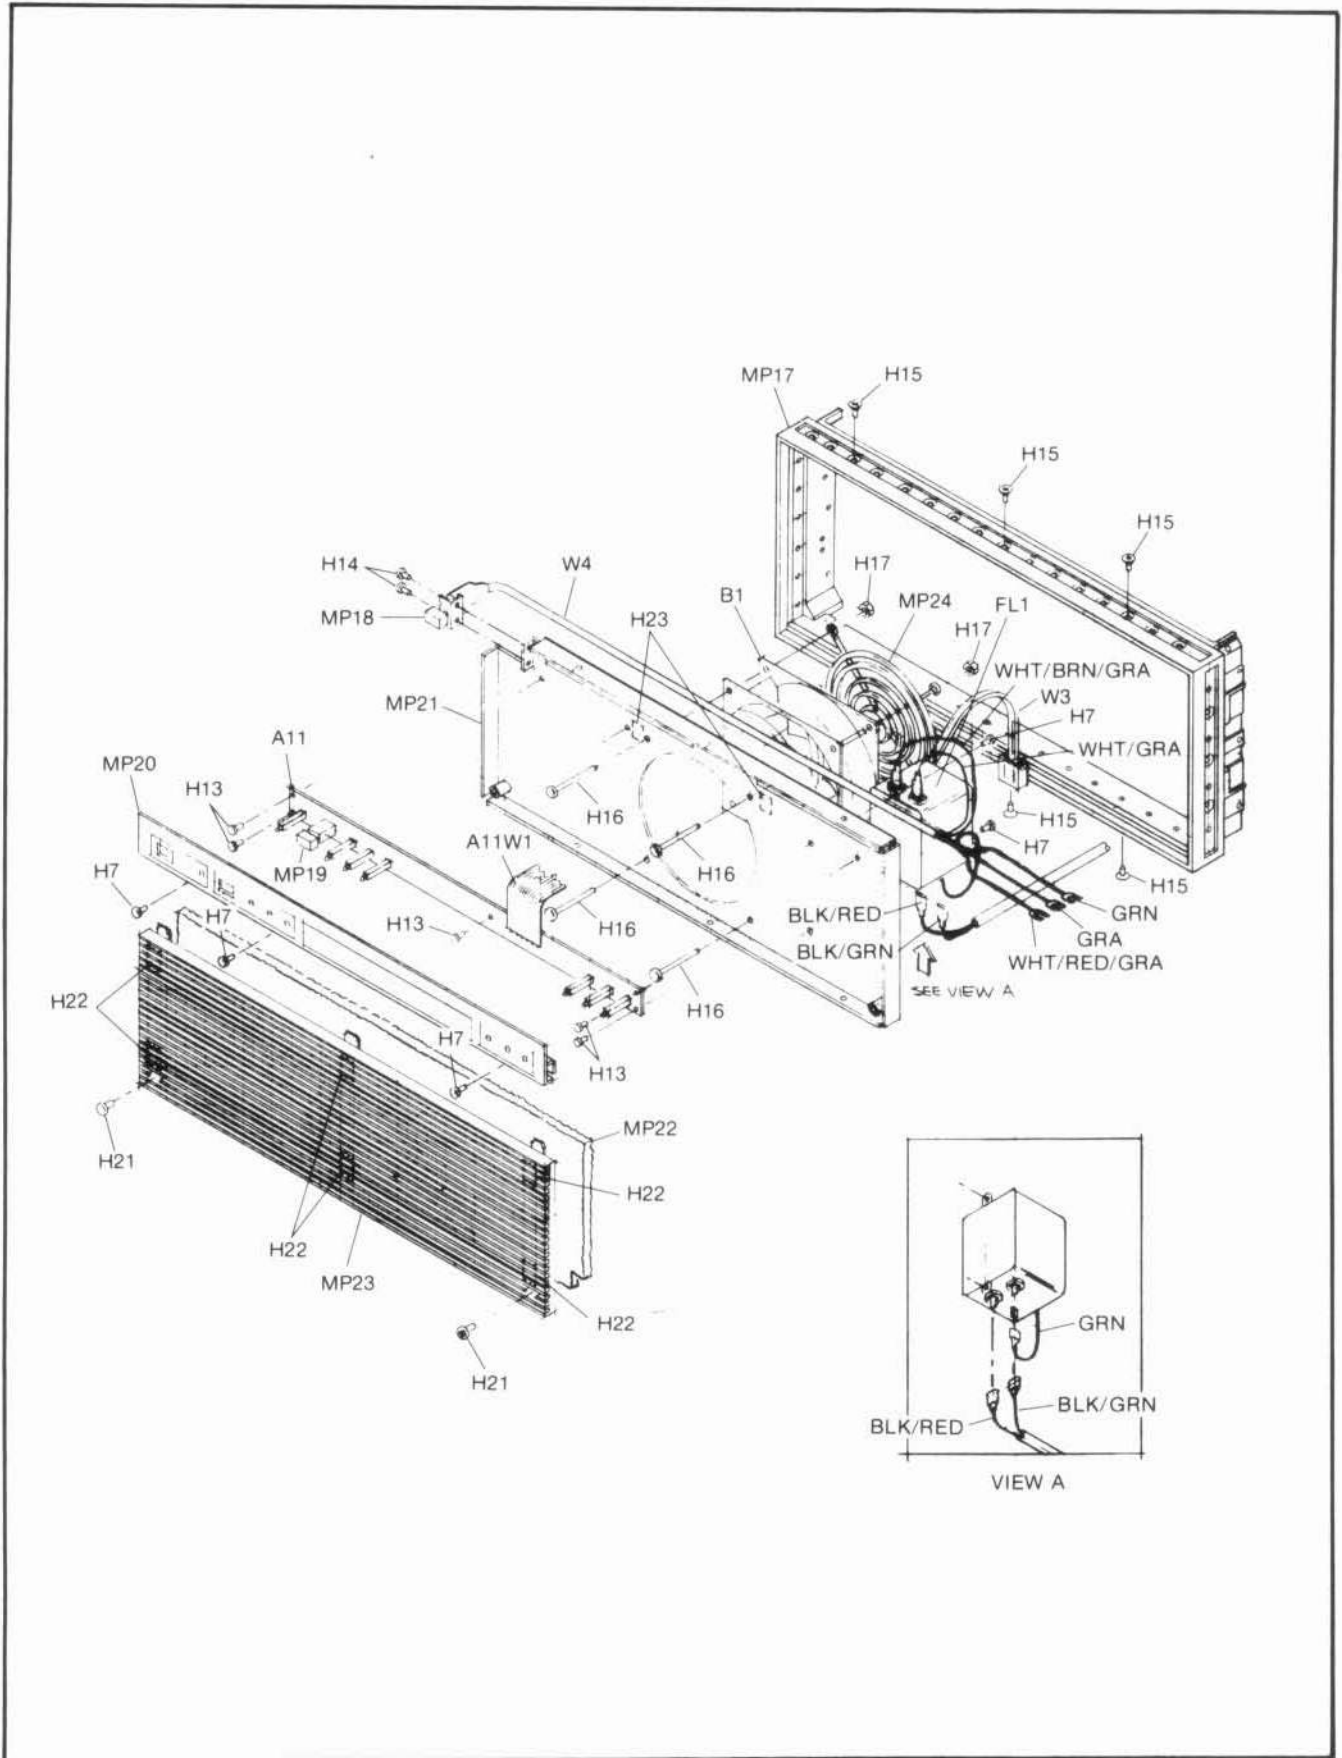

Figure 7-15. HP 5507A Front Panel Assembly
- c. Remove front panel (MP20, *Figure 7-15*) by removing three Pozidriv machine screws (H7, *Figure 7-15*).
- d. Remove five machine screws (H13, *Figure 7-15*) to free PC Board.
- a. Remove front sub-panel (MP21, *Figure 7-15*) from the front frame (MP17, *Figure 7-15*) by removing six machine screws located on top and bottom of front frame.
- c. Remove two Pozidriv retaining screws (H14, *Figure 7-15*).
Part of Figure 7-15. HP 5507A Front Panel Assembly